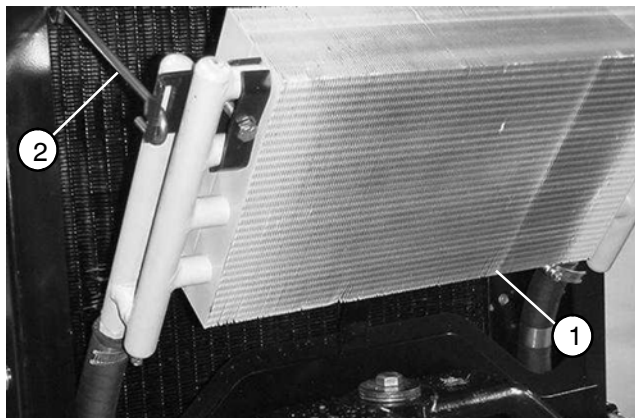

Figure 79
1. Remove oil cooler using Figures 79 and 80 as guides.
1. Install oil cooler using Figures 79 and 80 as guides.